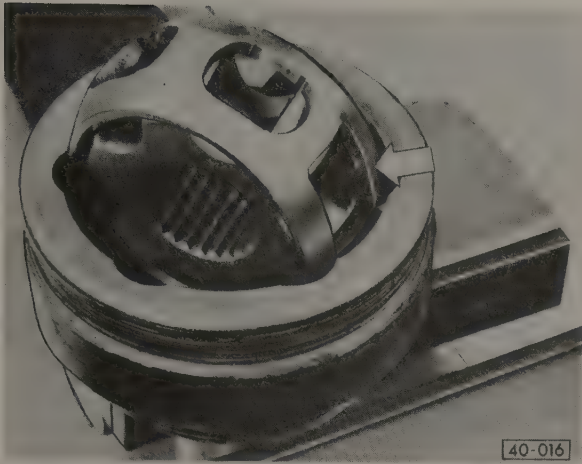

Fig. 5-13. Large rectangular openings in cage (arrow) in position for cage and hub removal.
3. Remove the hub and cage as a unit, turning them so that the two large rectangular openings in the cage are positioned as shown in Fig. 5-13, and remove the hub and cage.